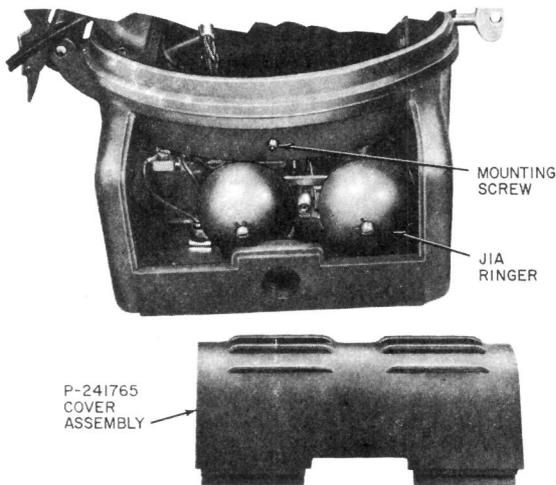

Fig. 8—525 (MD)-Type Telephone Set, Cover Assembly Removed
3.07 Make the necessary circuit tests and adjust the ringer volume while the inner door is open and the cover assembly (Fig. 8) is removed on the 525-type telephone set or before the faceplate is installed on the 526-type telephone set.
4.06 To gain access to the ringer on the 525-type telephone set, remove lower cover mounting screw located on bottom of set housing (Fig. 8).